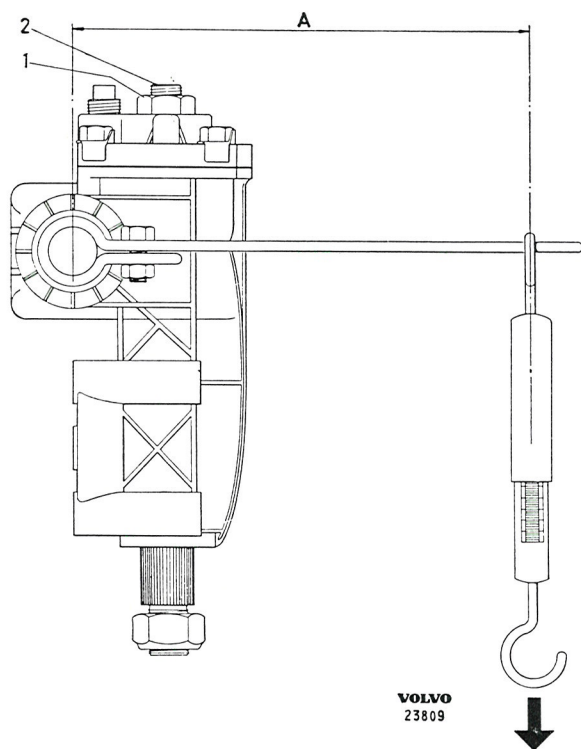

Fig. 6-47. Checking the take-up between cam and roller
16. Adjust the take-up according to Fig. 6-47. The spring-balance should give a reading of 0.4—0.7 kg (1—1.5 lb.) at the correct turn past the centre position. Here the steering cam should be vertical.